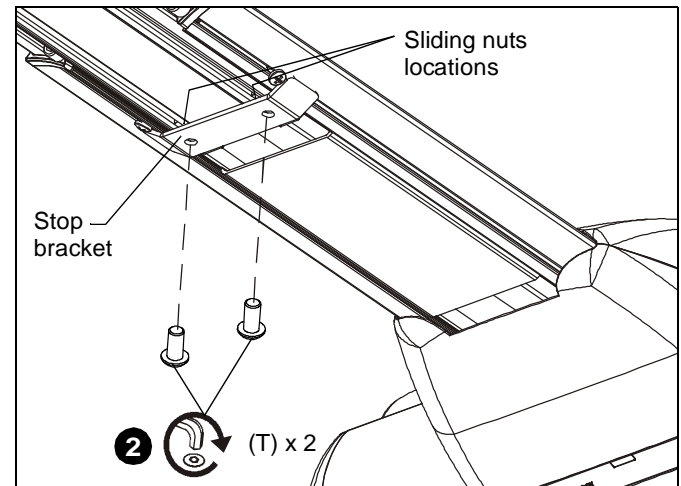

Figure 71
2. Install two 1/4-20 x 1/2" button head security screws (T) through holes in stop bracket and into holes in sliding nuts. (See Figure 71)